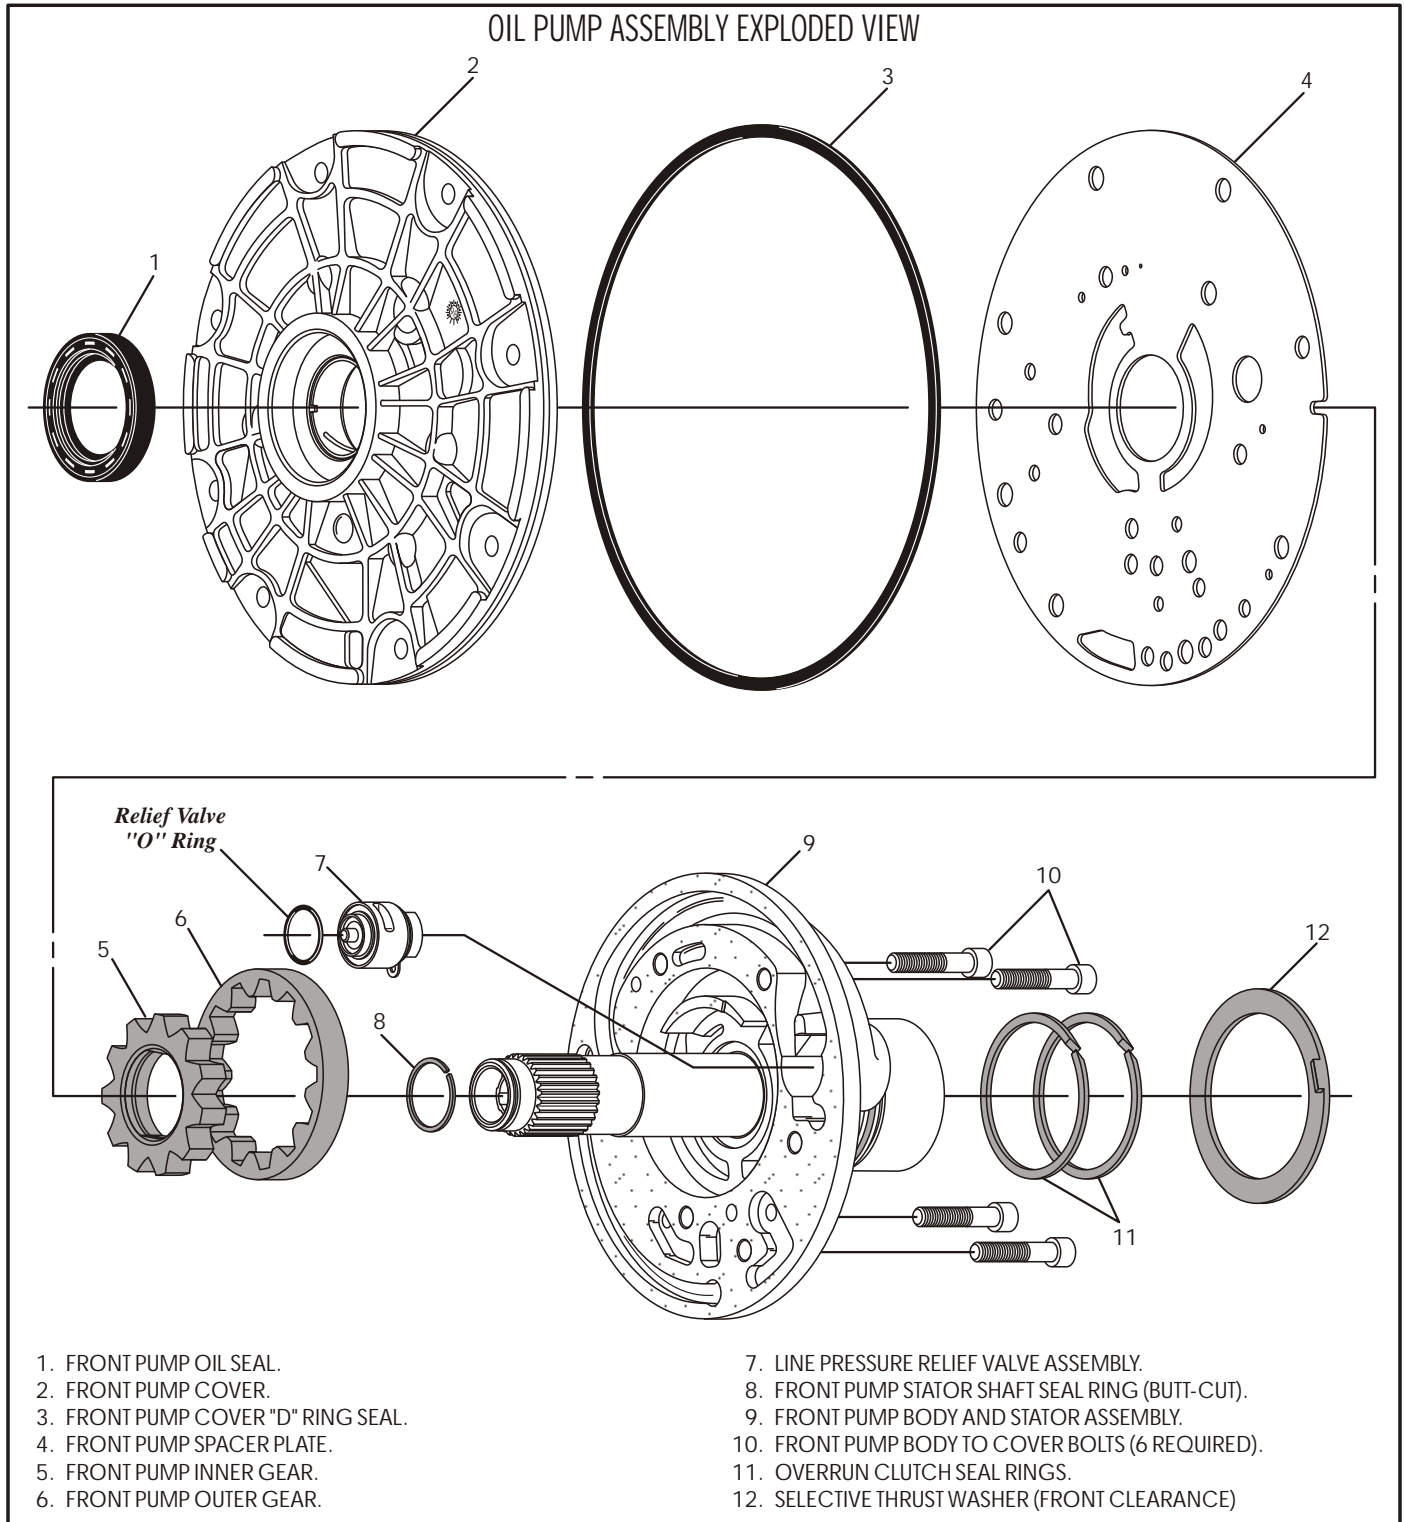

Figure 57
1. Disassemble the oil pump assembly using the illustrations in Figure 57 as a guide.
2. Remove and discard the converter seal and all sealing rings (See Figure 57).